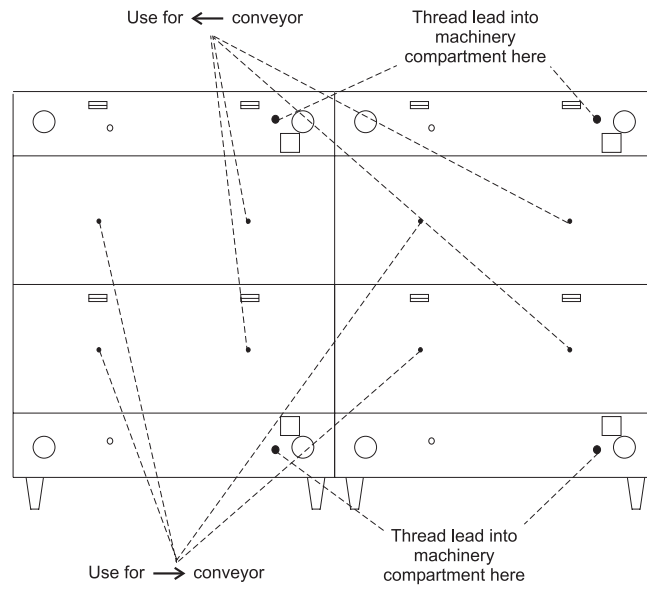

Figure 2-11
1. Install the thermocouple sensing bulb into the correct hole in rear of bake chamber as shown in Figure 2-11.